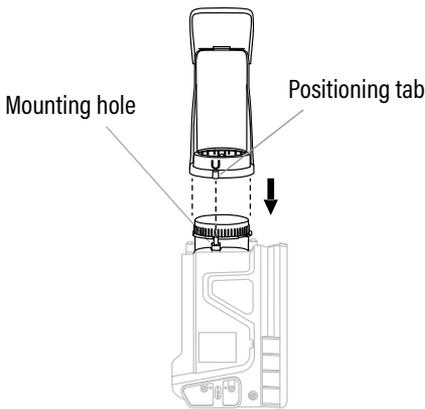

Fig. 6A
1. Locate and align the positioning tab on the discharge chute with the mounting hole on the chute base. (Fig. 6A)
2. Rotate the chute until the positioning tab aligns with the mounting hole. (Fig. 6A)